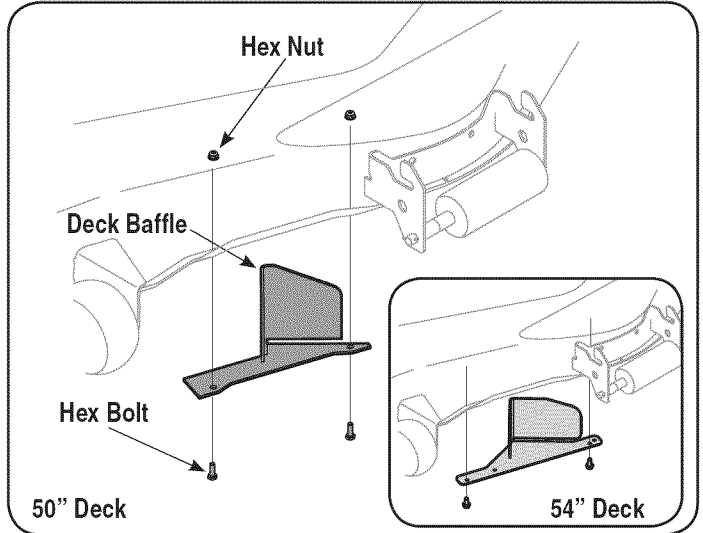

Figure 18
- Install the front deck baffle using two 710-3015 hex bolts and 712-04064 flange lock nuts from hardware pack 689-00163 included with this bagger kit. See Fig. 18.